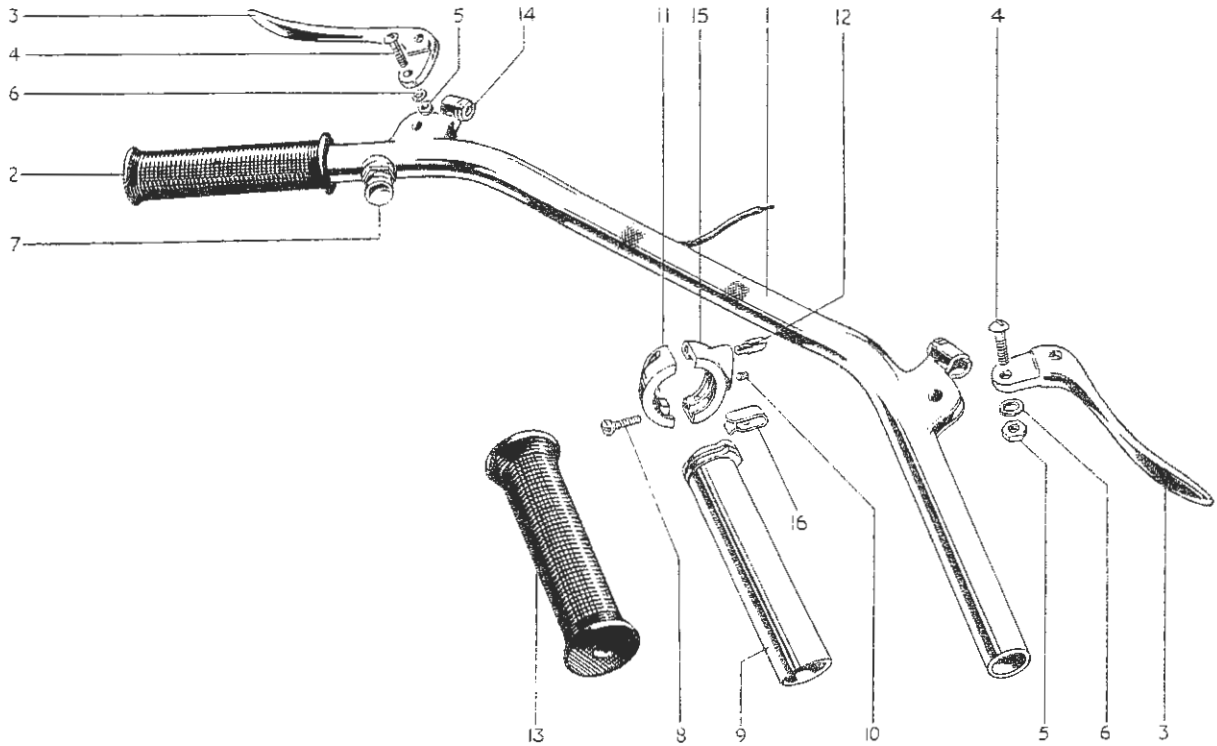

FIG. 14. HANDLEBAR AND COMPONENTS.
*Illustrated on Page 45—Fig. 14*
## INDEX TO FIG. 14.